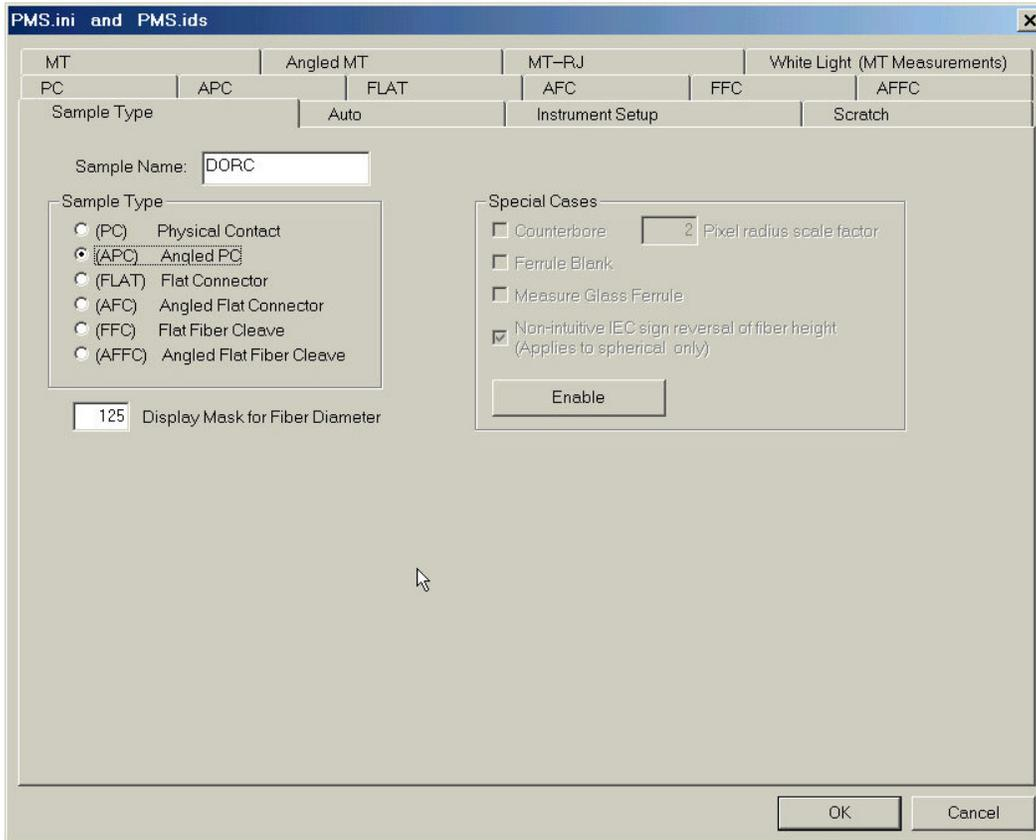
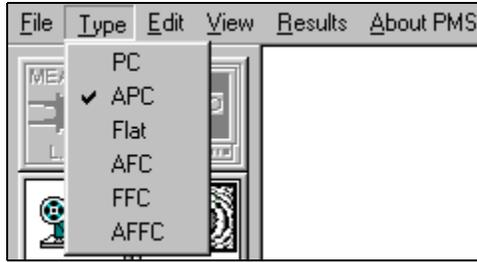

Figure 16.
Figure 17.
- Adjust the tilt micrometer to the expected angular offset. This is normally 8.0 degrees but can be any value between 0.0 and 15.0 degrees. To aid the operator, the tilt chuck has a mechanical stop at approximately 8.0 degrees. If an angle greater than 8.0 degrees is required to be measured then this mechanical stop can be removed. Ensure that APC has been selected in the Sample Type of the Setup Menu as shown in figure 16 or from the pull down menu displayed in the main PMS window as shown in figure 17.